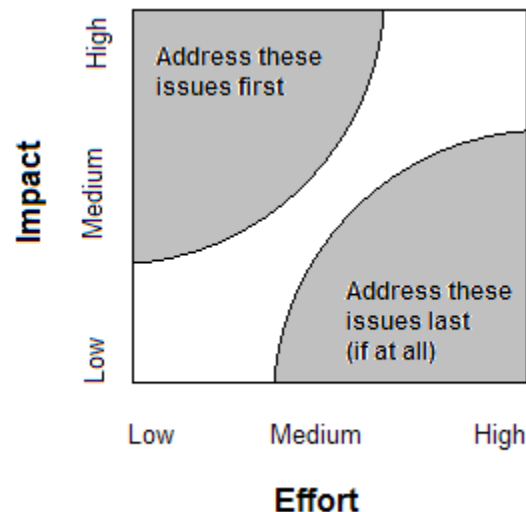

Figure 4: Making a Graphic Representation of Priorities
3. Work through each option in turn, asking the group to rate them as high, medium or low against impact and effort. When the first few options have been placed on the graph (see Figure 4 below), they may act as a benchmark or reference point to rate further options, e.g. option x is more or less effort than option y (note: this is similar to the Forced Pair Comparison⁷⁾ Technique).